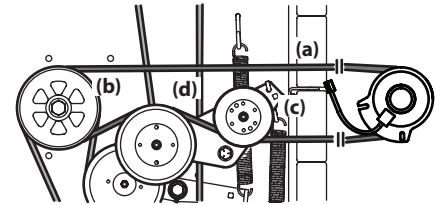

Figure 4-19
1. Remove the PTO belt (a) from the deck as instructed in the Deck Removal section then remove it from around the PTO clutch. See Figure 4-19.
2. Route the PTO belt (a) as shown in Figure 4-19.
3. After routing the belt around the PTO pulley (b), use a 1/2" drive in the idler pulley bracket (c) and turn towards the right of the tractor to finish routing the belt around the idler pulley (d). See Figure 4-19.